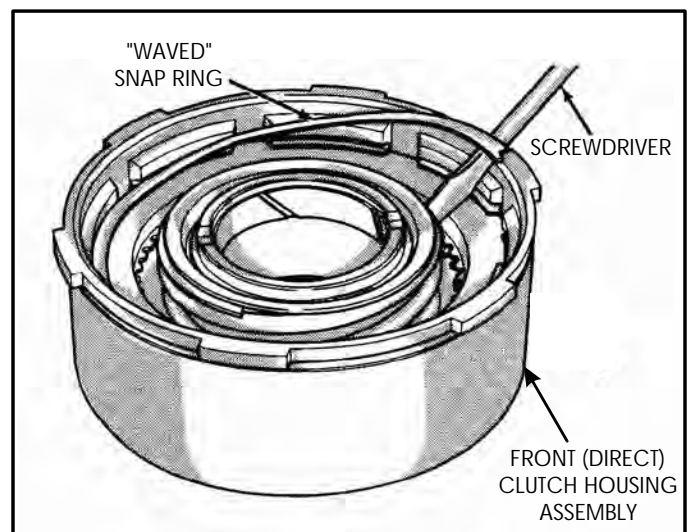

Figure 66
1. Remove the "Waved" snap ring from the front drum assembly using a screwdriver, as shown in Figure 66.